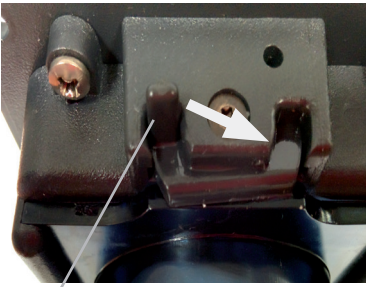

Figure 1.
1. Pull the lock lever tab 180° from left to right to unlock the cover latch. See Figure 1.